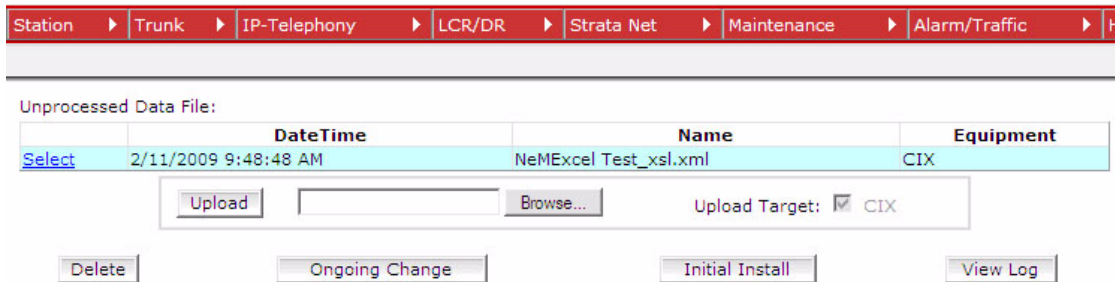

Figure 2-7. Import Screen
- Figure 2-7 shows that the spreadsheet has been parsed and verified by Network eManager and is now ready for importing.